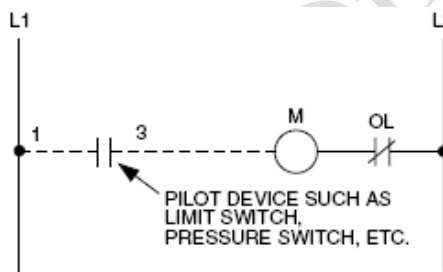

Fig. 13 Two-Wire Low Voltage Release.
1. Two-Wire Low Voltage Release (Fig. 13)